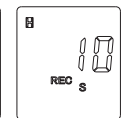

Fig.5
(3). To set the delay starting time of the data recording. Press the **MODE** again, the "REC" "S" and "H" will be flickering at the same time (Fig.5), the displaying number is the time of delay start of data recording. Press **HOLD** and **MAX** to set it, a maximum of 60 seconds, 1 second minimum. To set the delay time can make it easier to place the instrument in a suitable location, to avoid an unstable of the object being measured, and reduce the factors which are bad for the accuracy to obtain accurate measuring results.